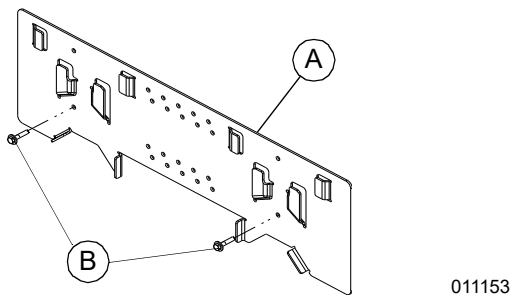

Figure 4-3. Install Foot Bracket
2. See Figure 4-3. Locate structural members to mount foot bracket (A). If structural members are greater than 16 in (40.64 cm) apart, install cross brace to ensure mounting to a solid structure.
3. See Figure 4-3. Install foot bracket (A) using lower holes with fasteners and washers (B) making sure bracket remains plumb and level.